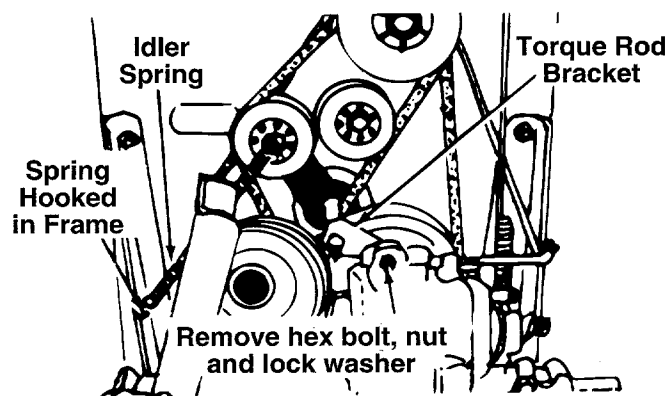

FIGURE 30.
3. Unhook the idler spring from the rider frame. See figure 30.